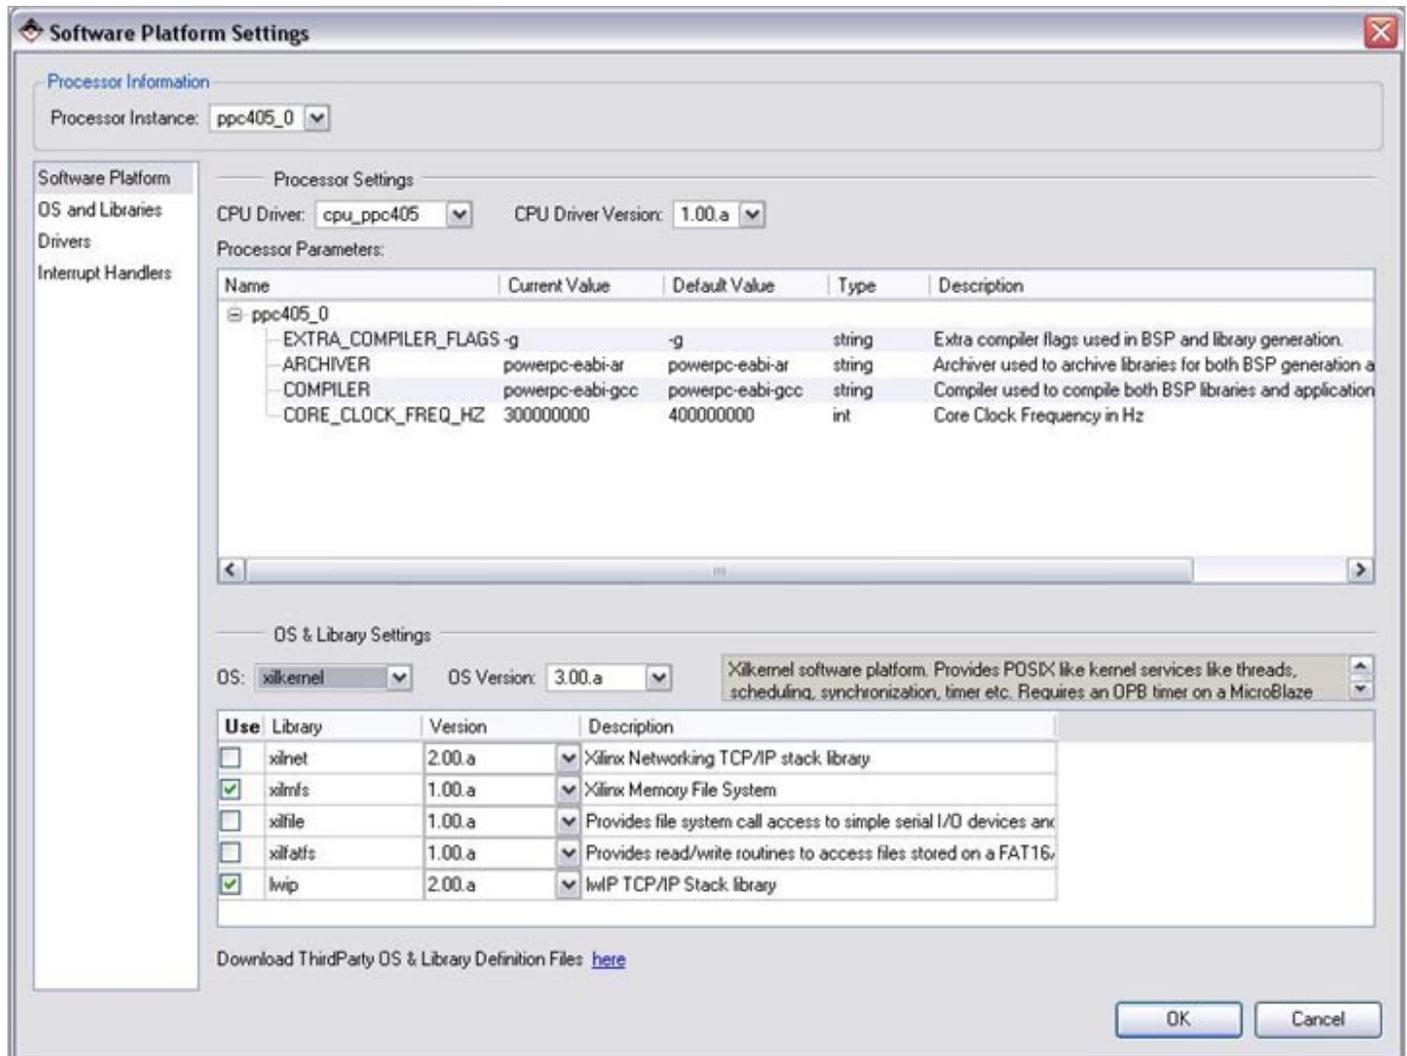

Figure 3: Libraries Table in Software Platform Settings Dialog Box
2. In the **Software Platform** tab of the Software Platform Settings dialog box, observe the **Libraries** table at the bottom left corner of the dialog box (see Figure 3).